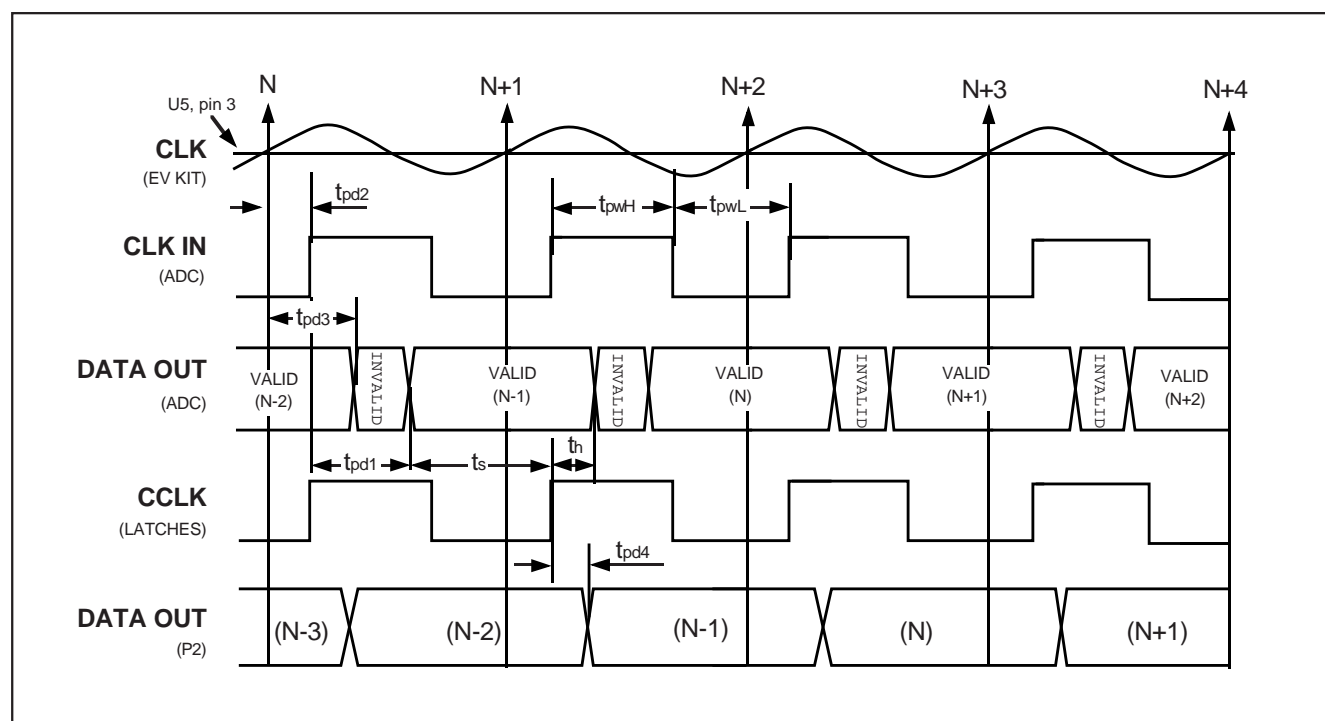

Figure 6. MAX1160 EV Kit Timing Diagram, CCLK = CLK IN
- When SJ3 is installed (as shipped from the factory), the ADC and the latches (U7 and U8) are clocked at the same time. With this configuration, the data seen at connector P2 contains another clock cycle of latency (a total of two cycles of latency, as shown in Figure 6).